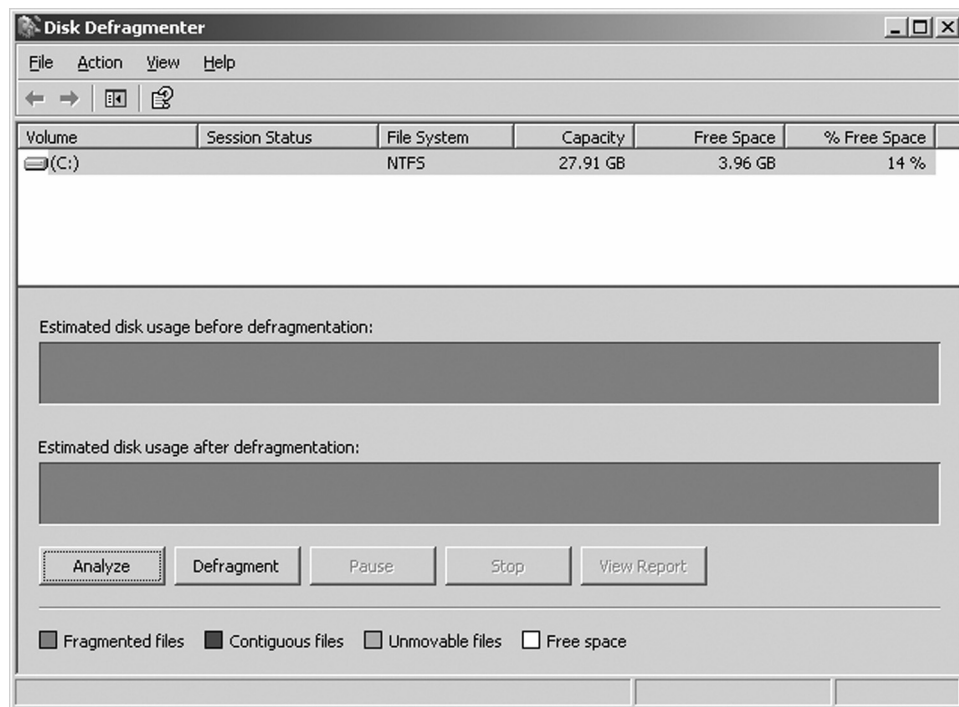

Figure 7-10: Disk Defragmenter window
5. Click the **Defragment Now** button to open the **Disk Defragmenter** window (Figure 7-10).